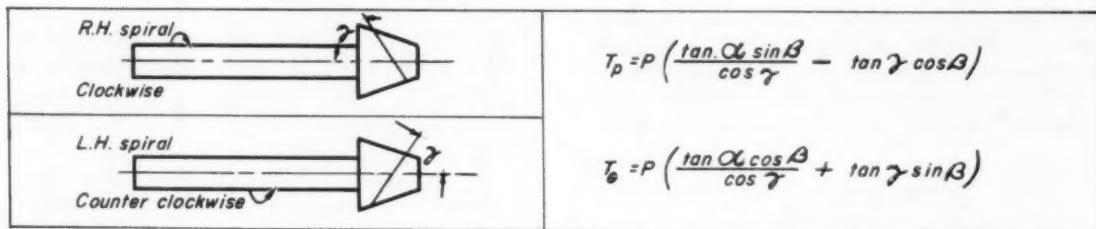

FIG. 4A
Equations 4 and 5 are used when: (1) Rotation of the pinion shaft is clockwise viewed from the big end of the pinion and the pinion spiral is right hand, or (2) Rotation of the pinion shaft is counterclockwise viewed from the big end of the pinion and the pinion spiral is left hand, see Figure 4a.